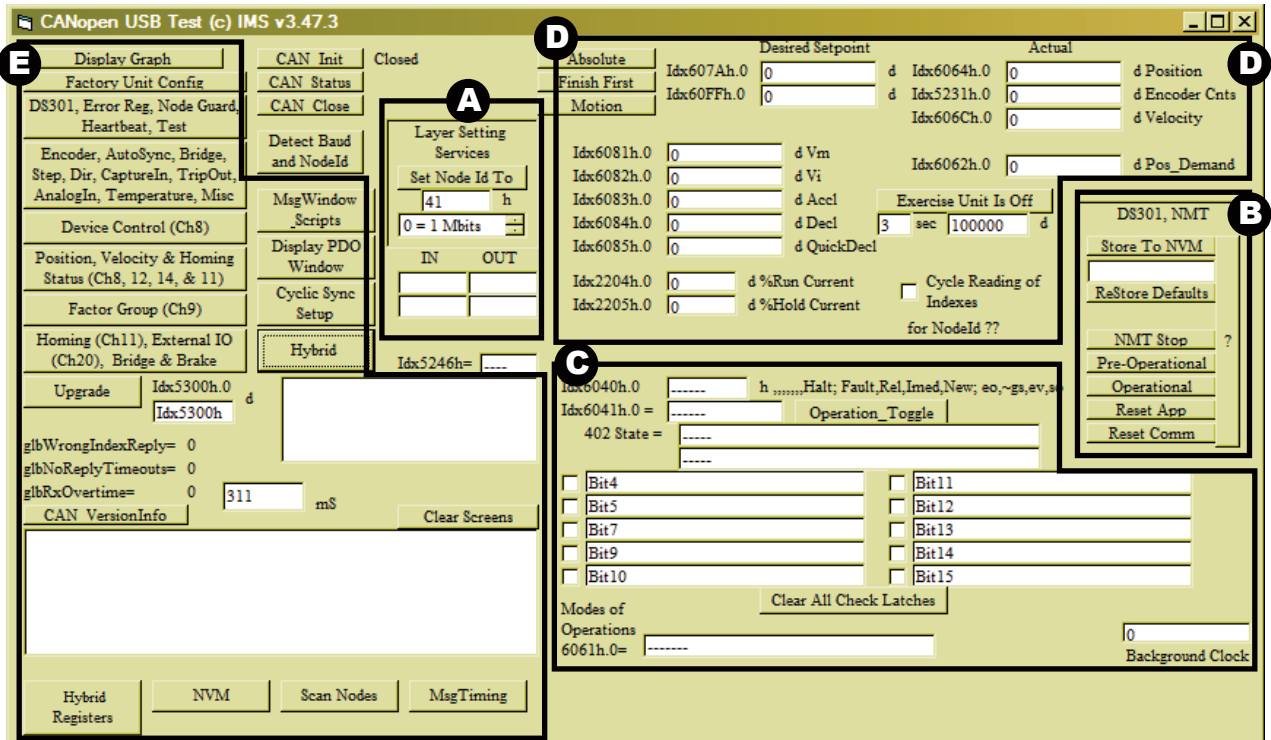

Figure 9.1: CANopen Tester main screen layout.
- Block (A)** The block labeled (A) in Figure 9.1 uses LSS (Layer Setting Services) to configure the Node ID and BAUD rate. The defaults are as shown, Node ID = 41_h and BAUD = 1 Mbits
- Block (B)** Contains switched for controlling the NMT protocol for switching the device through the various stages of the state machine, resetting the application, communications, restoring defaults.
- Block (C)** DS-402 state specific, Control and Status word specific operation, such as selecting the operation mode, reading the check latches.
- Block (D)** Profile position and profile velocity direct motion command and parameter entry and configuration.
- Block (E)** Allows access to dialogs fitting specific DSP-402 and mode specific and manufacturer specific objects as well as SDO and PDO entry and receipt.